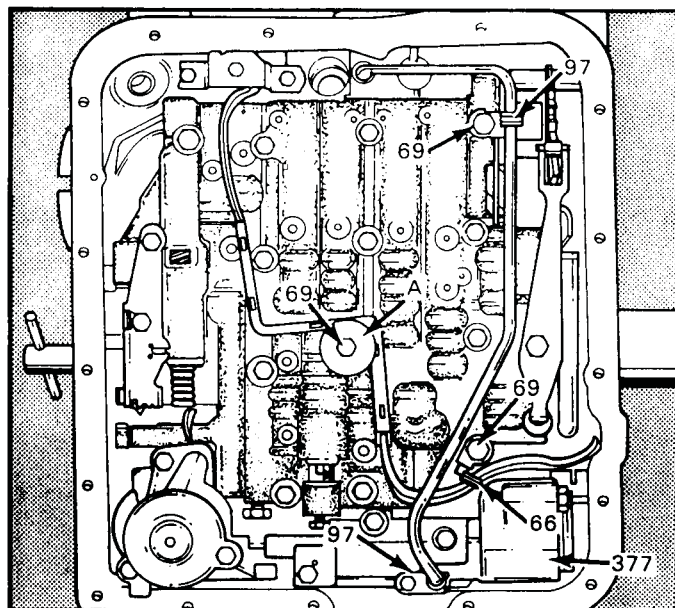

Figure 193
21. Start the center bolt with the large flat washer, and hand tighten only (See Figure 193).